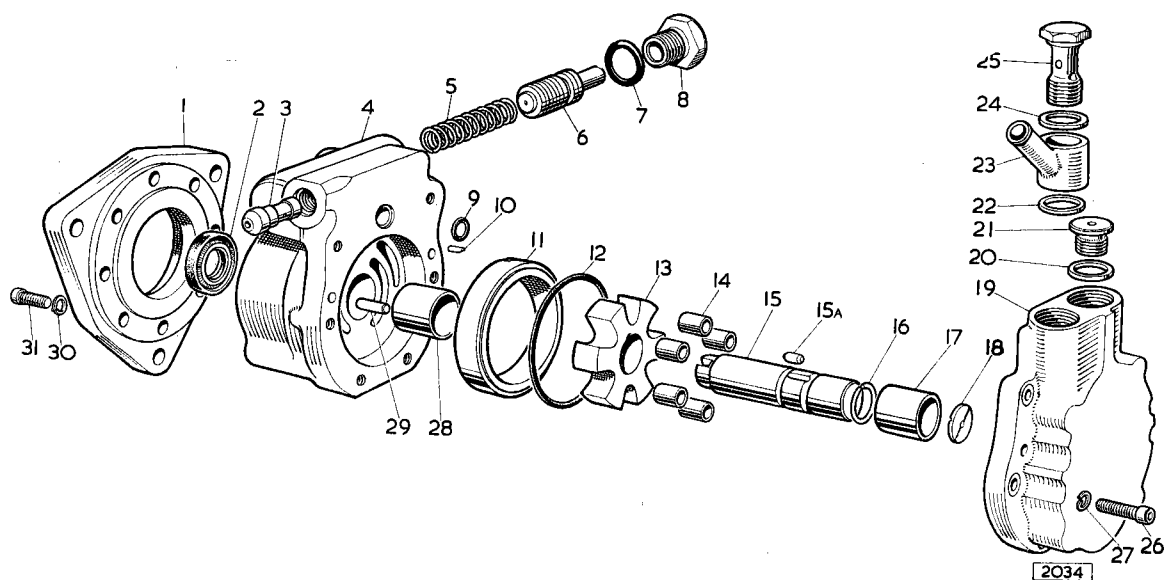

Fig. 11. Exploded view of the oil pump
Remove the adaptor screw (25, Fig. 11), fibre washer (24), adaptor (23) and gasket (22).